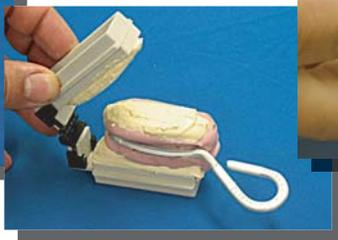
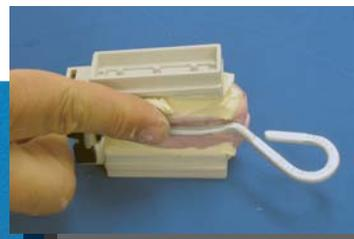

Figure 4
Figure 5
8. Place additional stone into the opposing tray. Use a spatula to place stone into the ribs. Use of a vibrator is not recommended, as it will cause the stone to run out of the impression. Add additional stone as necessary to the impression so as to allow the opposing tray to be parallel to the die side tray. Close the trays (Figure 4), and wipe excessive stone from the sides of the tray/impression with a finger or lab knife, as it hardens. Allow stone to harden (Figure 5).